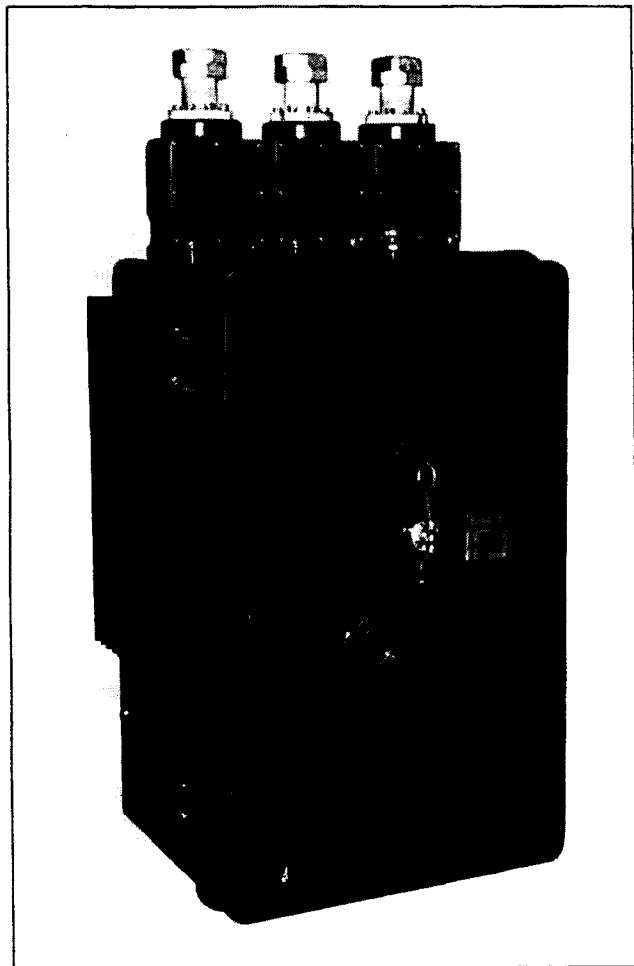
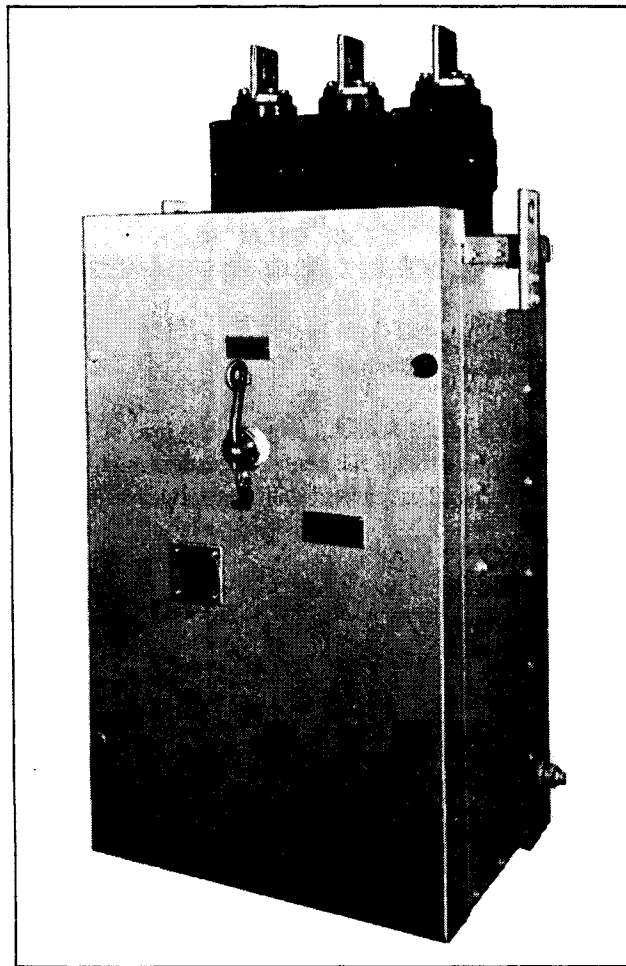

Fig. 1 Front View of CMD Submersible Enclosure
Fig. 2 Front View of Non-Submersible CMD-1A Enclosure
Fig. 1 shows a CMD Submersible Enclosure for transformer mounting. Fig. 2 shows a NEMA 1A semi-dust-tight enclosure for transformer mounting.
4. Externally mounted fuse housing. See Fig. 1.
- a. With the housing door open, drill out the two .190-32 machine screws which fasten the interlock bracket to the dead-front panel. These screws are located to the left of the shutter opening and are fastened through the panel by means of press nuts. (See RPD 35-552, Pages 4, 5, Fig. 1, Item 7). The bracket and hardware, once free, will fall onto the mechanism top pan and must be removed after the dead-front panel is removed. Turn the three, 1/4-turn fasteners, and remove the front panel.